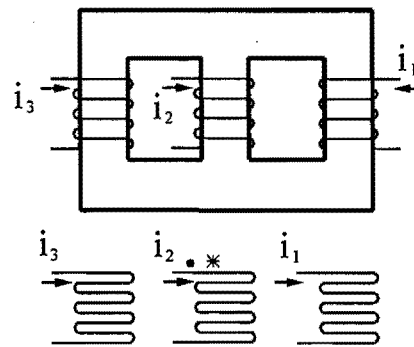

Fig. Q2-1
**Q2, 10 pts:** There are 3 coils in a magnetic circuit,  $N_1$ ,  $N_2$ , and  $N_3$  carrying respectively a current  $I_1$ ,  $I_2$ , and  $I_3$ . The polarities among the coils are shown in Fig. Q2-1 by the reference of the core and winding direction. Find:
- (i). At the bottom of Fig. Q2-1, there is no reference of winding direction and hence a "dot" convention is adopted to show coupling direction. On Fig. Q2-1, mark the proper terminals of coil 1 and 2 with a 'dot'; of coil 1 and 3 with a 'star' to carry the direction information from the top to the bottom figure.